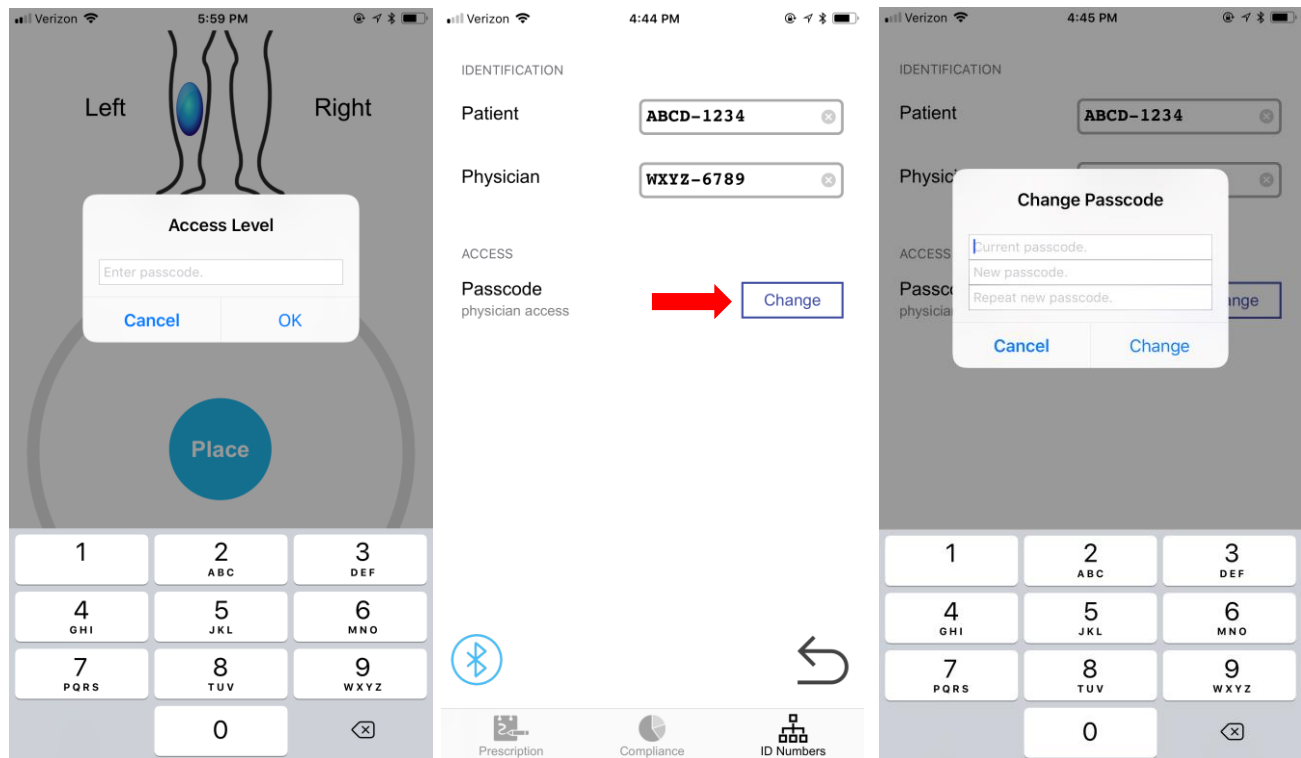

Figure 15: a) Accessing Physician (or Diagnostic) Window; (b) Changing PIN code
1. Touch the Rx (Physician) symbol and key in correct passcode (7-2-3-4-2-5) and touch “OK” – **Figure 15**